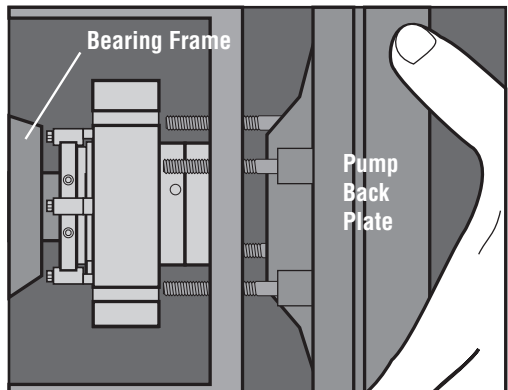

Figure 9
2.4 **Install the pump back plate** (seal chamber) and bolt it in place on the bearing frame. See Figure 9.